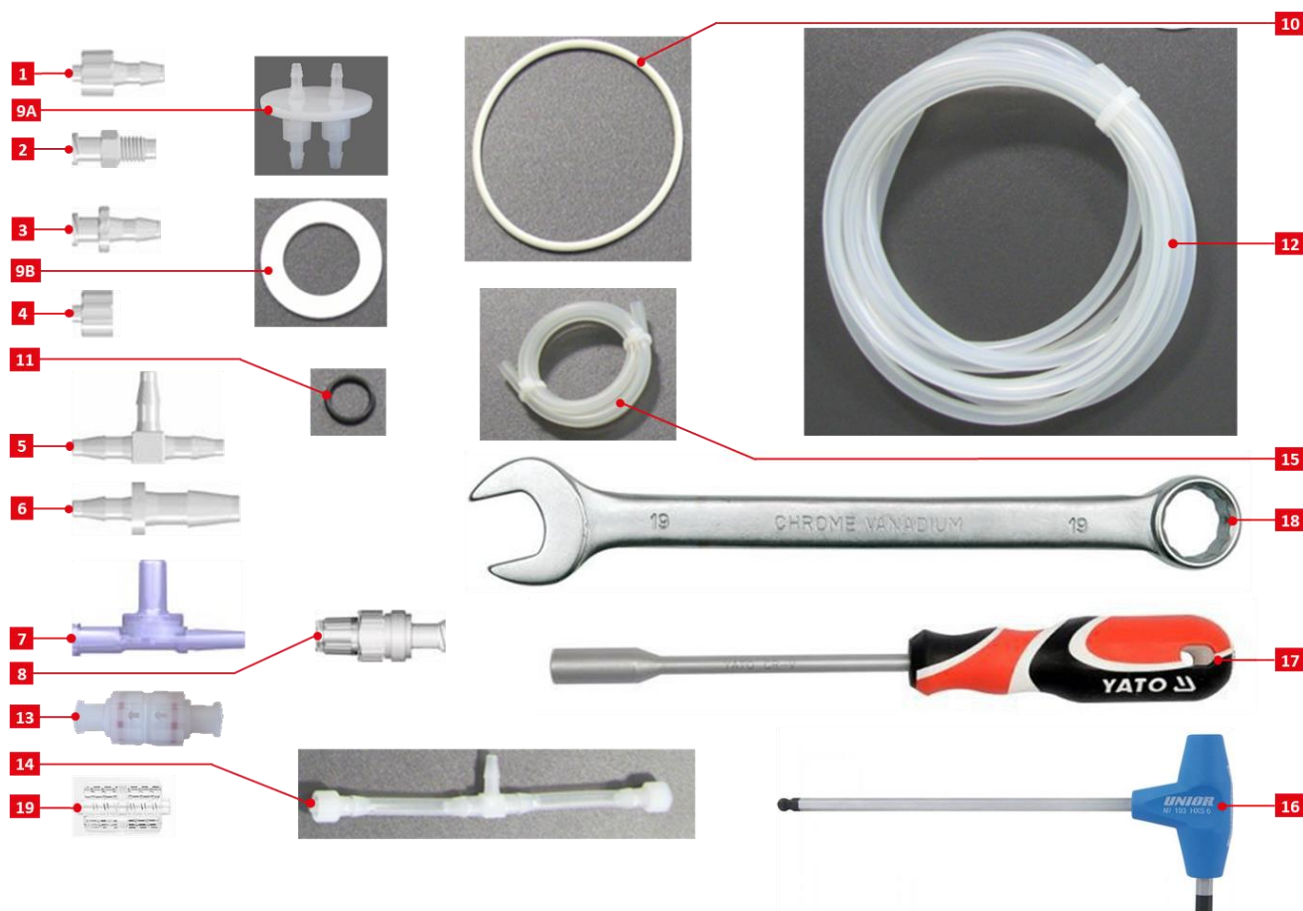

Fig. 4 Components of the Spare Part Kit.
5. Spare Part Kit* – for the complete list of Spare Part Kit see Tab. 4 on page 12 and corresponding Fig. 4.
Tab. 4 List of Spare Part Kit – components shown in Fig. 4.